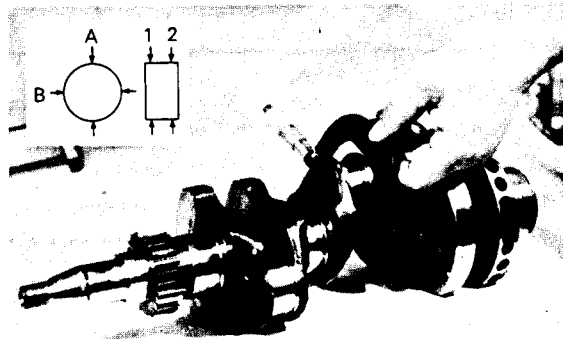

Figure 104
7. Check the crank journals and crankpins for damage, out of round wear or tapering wear. The diameter of each crankpin or main journal should be measured at two places, "1" and "2", in two directions, "A" and "B" (Fig. 104).